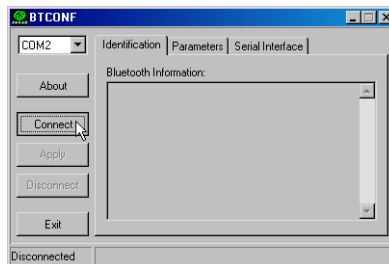

Figure 2-39. Select Communication Port and Click Connect
- From the drop-down list in the upper left corner, select the computer serial port used for communication (Figure 2-39).
- Click **Connect** to connect the computer and Bluetooth module (Figure 2-39).